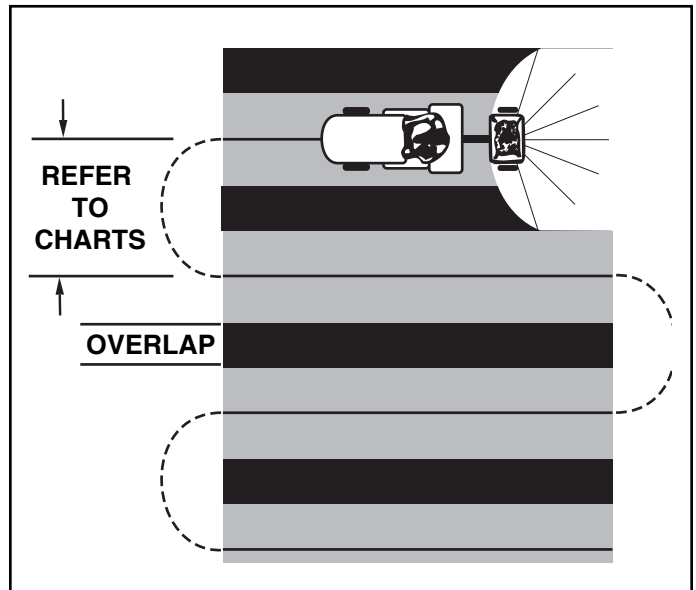

FIGURE 17
10. To insure uniform coverage, make each pass so that the broadcast pattern slightly overlaps the pattern from the previous pass as shown in figure 17. The approximate broadcast widths for different materials are shown in the application chart on this page.